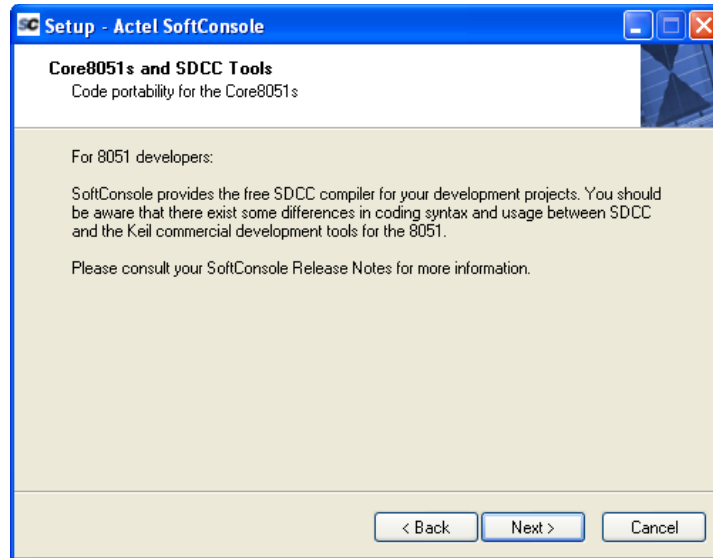

Figure 2-1 · Core8051s and SDCC Tools Page
4. By default, all SoftConsole components are selected (recommended) for installation. If you do not want to install a component, clear the selection for it. Click **Next**. This opens the Core8051s and SDCC Tools page (Figure 2-1).